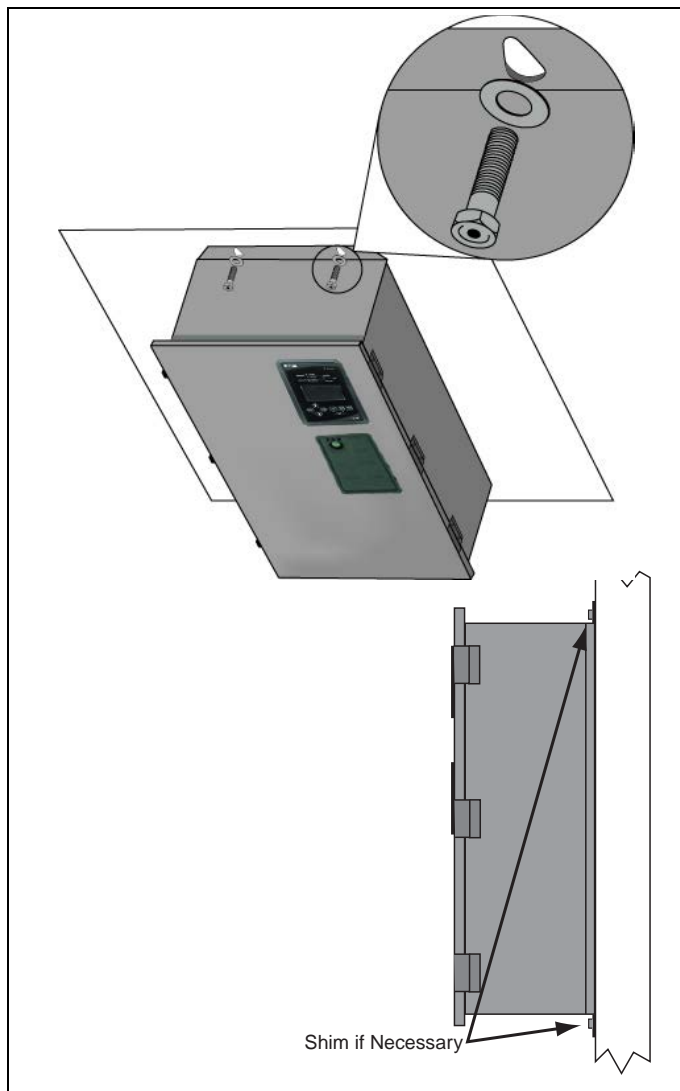

Figure 24. Mounting Details.
Step 1: Mount the ATS on a flat rigid surface (Figure 24). Shim if necessary.